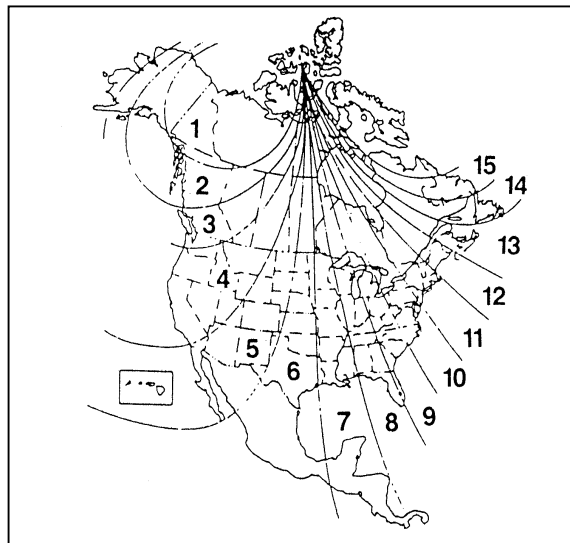

Figure 2 — Zone map
The variation adjustment is only needed if you travel outside your current zone (see Fig. 2). The following describes the method available for setting the variation adjustment:
3. Determine which zone of the country you are in by referring to the zone map shown in Figure 2.